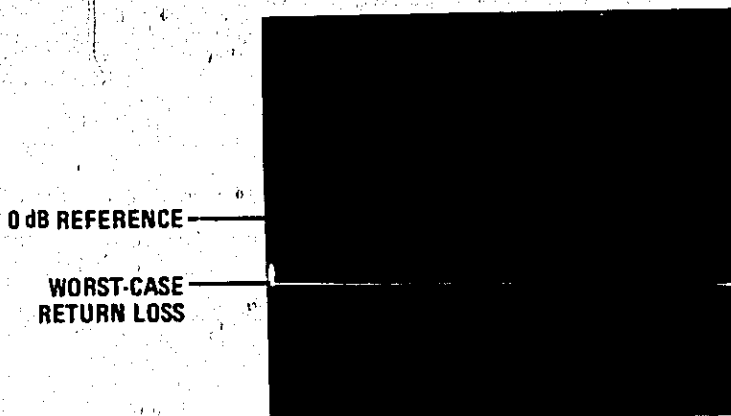

Figure 20. INCIDENT Port Return Loss (0.5 to 2 MHz)
- (1) Set 8505A Frequency Control RANGE MHz switch to .5 to 13. Adjust FREQUENCY START control to 00.50 and FREQUENCY STOP control to 02.00.
- (2) Repeat steps k through l except that the indication should be ≥ 23 dB below the zero dB reference level for the frequency range .5 to 2 MHz (Figure 20).